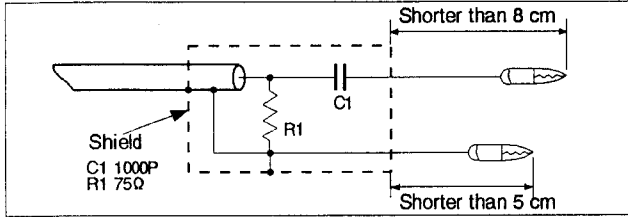

Fig. 3-1-23 Sweeper probe
Sweeper probe	• Sweep signal supply cable (See Fig. 3-1-23)
- 1) Use a sweeper probe as shown in Fig.3-1-23 and connect the sweep generator output to pin 1 of SAW1.